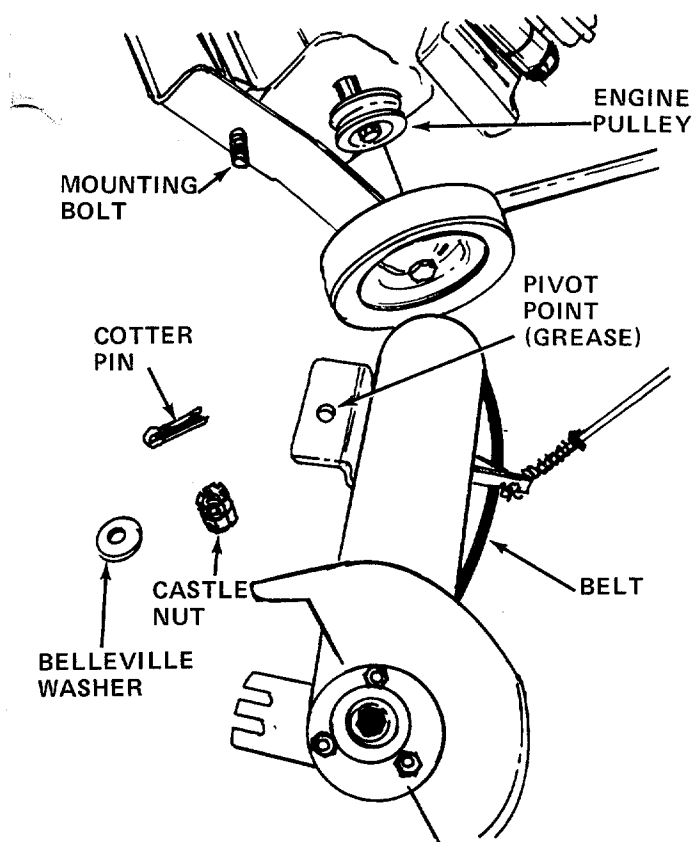

FIGURE 15
3. Lift off the hex castle nut, Belleville washer and belt cover. See figure 15.
While the belt cover is removed, it is a good idea to apply a little grease to the pivot point on belt cover. See figure 15.
6. When tightening the castle nut, only tighten enough to line up hole in bolt for cotter pin. **DO NOT OVERTIGHTEN.** Belt cover must pivot freely. See figure 15.